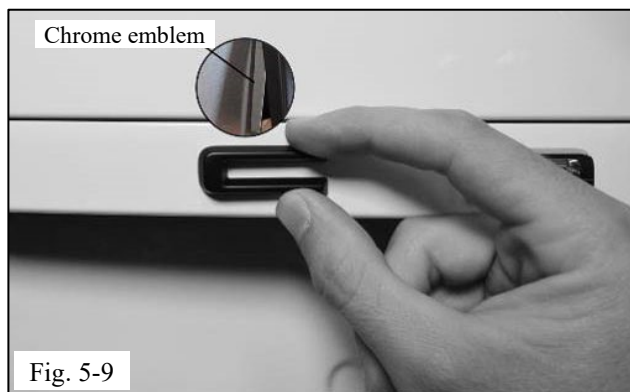

Fig. 5-9
- (a) Check the fitment of the emblem cap over the factory chrome emblem (Fig. 5-9).